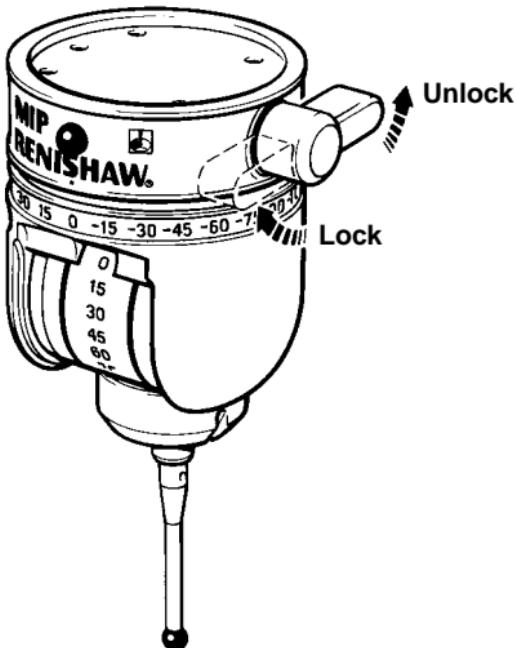

Figure 4 - Locking and unlocking
5.1 Locking and unlocking (see figure 4)